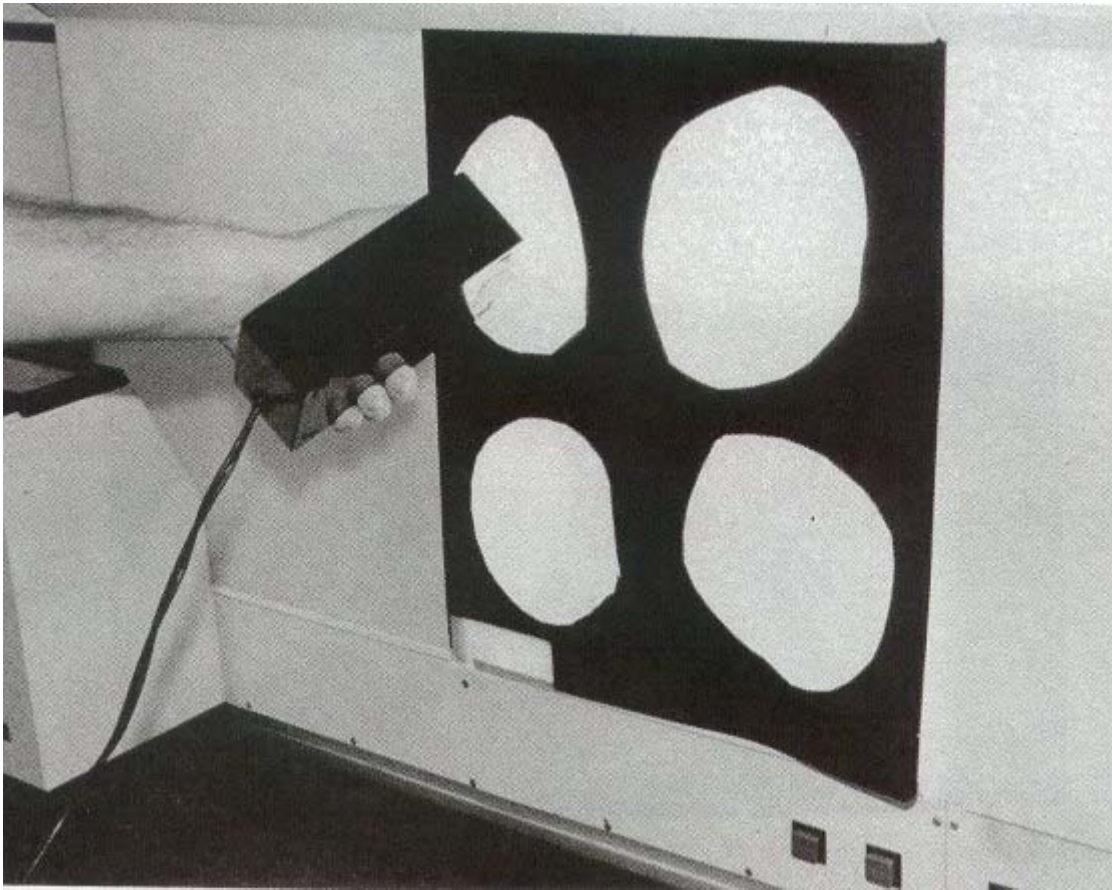

Figure 8-1. First quadrant.
- h. Start with the first quadrant (upper left corner) and place the meter in contact with the viewbox (see figure 8-1).